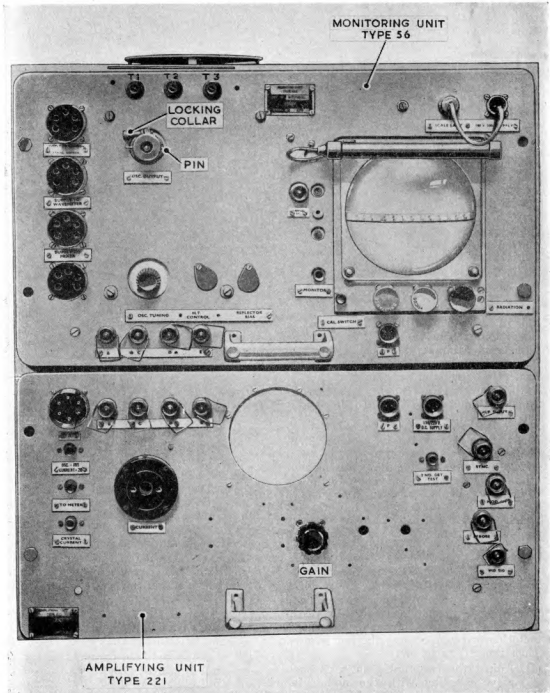
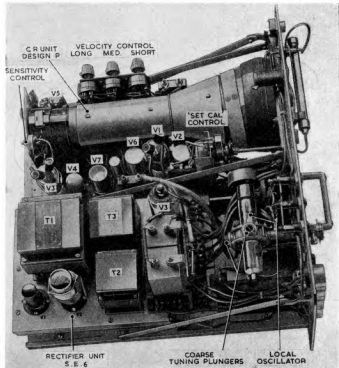

Fig. 10. Monitor Type 53 : front panel
Fig. 11. Monitoring unit Type 56 : interior
22. During the following operations, a close watch must be kept on the mixer crystal current. It has been found that the mixer works most efficiently when the current through the crystal is in the order of 500 to 600 micro-amperes. A 500 micro-ampere meter is plugged into a socket adjacent to a jack socket marked TO METER on amplifying unit Type 221 (*fig. 10*). A wander lead with a jack plug on either end is plugged into the TO METER socket and is used to connect it to the CRYSTAL TEST jack socket which is in series with the crystal mixer on the side of receiving unit Type 177. The mixer crystal current is then indicated on the meter.
a plug from which the output of the local oscillator is taken (*fig. 10*). The plug may be rotated and is locked by means of a collar and screw. A pin indicates the position of the pick-up loop which projects into the klystron cavity. Pick-up is a minimum when the pin is vertical.
26. The receiver should already be switched on. Adjust the BRILLIANCE and FOCUS controls under the CRT window (*fig. 10*) until a well focused trace is obtained. Switch to short range by turning the extreme right-hand knob under the CRT window so that the yellow spot is uppermost.
28. The transmitter wavelength should have been noted previously (*para. 15*). If it was found to be outside the range of 9·9 to 10·1 cm. it will be necessary to alter the coarse tuning plungers of the local oscillator (*fig. 11*). To do this, the upper and lower chassis of monitor Type 53 should be withdrawn slightly by removing the eight securing bolts. If the transmitter wavelength is greater than 10·1 cm., unscrew both plungers two turns ; if it is less than 9·9 cm. screw them in two turns. If it is found impossible to make two turns when the wavelength is short, unscrew the plungers three turns, thus tuning the local oscillator to a longer wavelength than that of the transmitter.
29. Turn the gain control (fig. 10) fully clockwise, then back by a quarter turn. Rotate the aerial until a permanent echo is observed on the monitor trace. In the case of the height finder (R.V.461C), it may be necessary to tilt the aerial by 3 to 4 deg. If no signals appear, the receiving chain will probably be well off tune. Start therefore by observing the ground ray at the start of the trace. Make this as wide as possible by turning the short velocity pre-set knob fully clockwise (fig. 11). Set the local oscillator tuning knob to its mid position and alter one of the local oscillator coarse tuning plungers. The shape of the ground ray will be seen to alter as the plunger is turned, and small signals within the ground ray will pass through their maxima. Tune the second plunger in a similar manner for maximum signal. Next turn the oscillator tuning knob, likewise for maximum signal. Do not forget to adjust the crystal current each time (para. 25).
- (1) Turn the range switch to long (i.e., so that the red spot is uppermost).
- (2) Turn the pre-set long velocity control (fig. 11), which is accessible through a hole in the side of the monitoring unit, fully counter-clockwise.
- (3) Withdraw the chassis as far as possible. The lead to the soft rhumbatron (top left) and the oscillator output lead may be removed to do this. Turn the SET CAL control (fig. 11) until 49 pips appear on the trace. It will be necessary to bring the trace towards the centre of the screen by means of the horizontal shift control in order to count the pips.
- (4) Switch to short range (yellow spot uppermost). Verify that the tumbler switch adjacent to the long velocity pre-set control is up.
- (5) Adjust horizontal shift so that the first pip coincides with zero on the top scale. Adjust short velocity pre-set so that the 7th pip coincides with 6 on the upper scale, and the 13th pip with 12 on the upper scale.
- (8) Switch to long range (red spot uppermost).
- (9) Adjust the long velocity pre-set control so that :—
34. Perfect calibration is extremely difficult to obtain on the long range, but some improvement may result from slight adjustment of the SENSITIVITY control which is affixed to the CRT rear supporting bracket (fig. 11). If this control is moved, the calibration of all three ranges must be repeated. The sensitivity control is normally set at 90 per cent. of its clockwise travel, which gives almost maximum scan amplitude. After adjustment, the SENSITIVITY and SET CAL. controls should be
44. Turn the pre-set REFLECTOR HT control (*fig. 10*) for maximum crystal current. Turn the pre-set REFLECTOR BIAS control (*fig. 10*) gradually clockwise and note the point at which there is a sudden drop in crystal current. Turn back fully counter-clockwise, and then turn gradually clockwise so that the crystal current becomes a value slightly less than the figure at which the sudden drop occurred. Adjust the magnetron capstan (*para. 5 (2)*) for maximum signal.